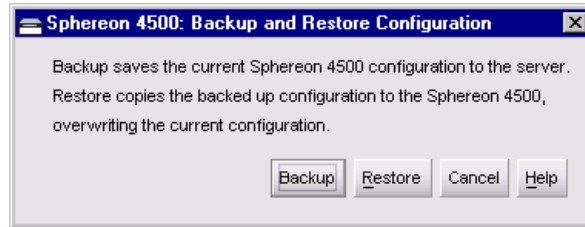

Figure 4-71 Backup and Restore Configuration Dialog Box
5. Select the *Backup & Restore Configuration* option from the *Maintenance* menu. The *Backup and Restore Configuration* dialog box displays (Figure 4-71).